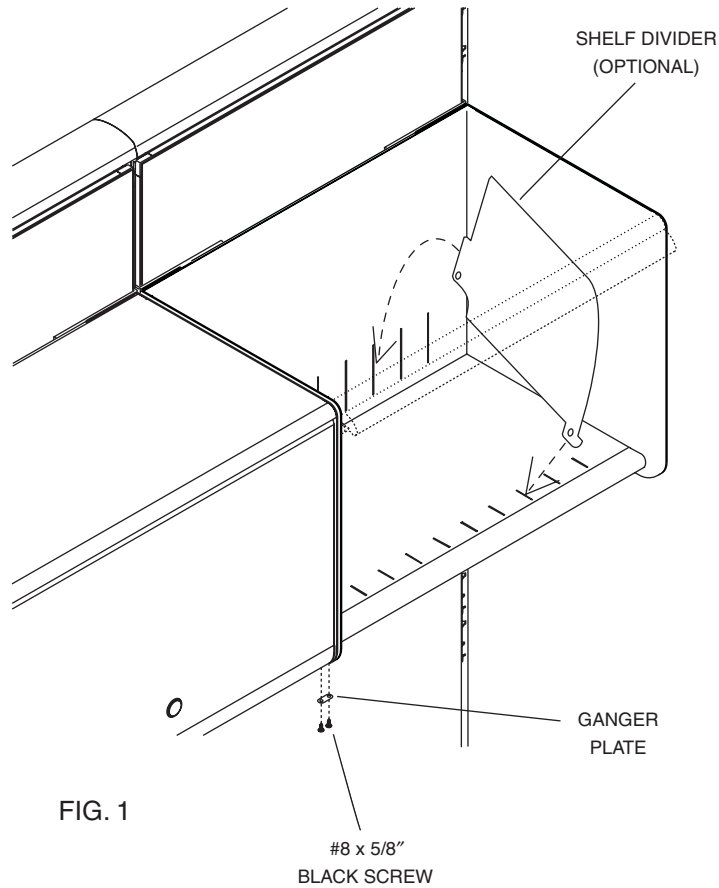

FIG. 1
2. Rotate the rear of the divider down until the rear tab snaps into the vertical slot in the cabinet back (Figure 1).